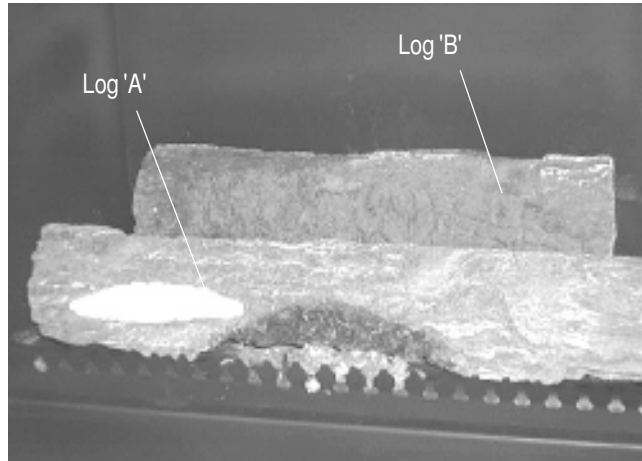
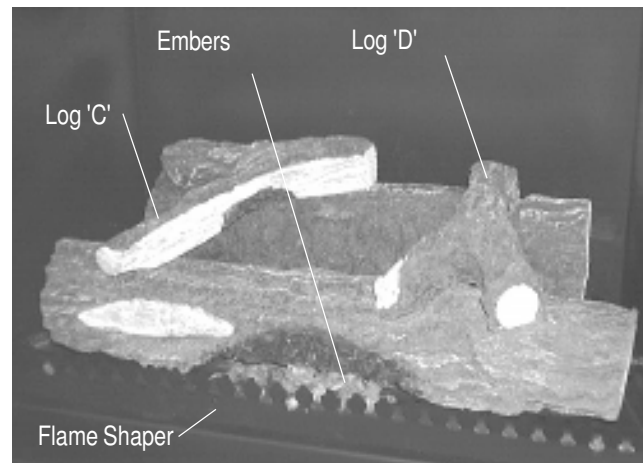

Figure 8a. Logs 'A' and 'B' shown in factory-installed positions.
Figure 8b. Completed log installation. Logs 'C' and 'D' are placed in their mating positions, and embers are in place.
The **ME34-BV** is supplied with four (4) fibre logs. Logs "A" and "B" are permanently attached to a fibre base, which is pre-installed by the factory. To install the two small logs ("C" and "D"), simply place them onto their mating positions as shown in figure 8a below. When log set is installed it should look like figure 8b.